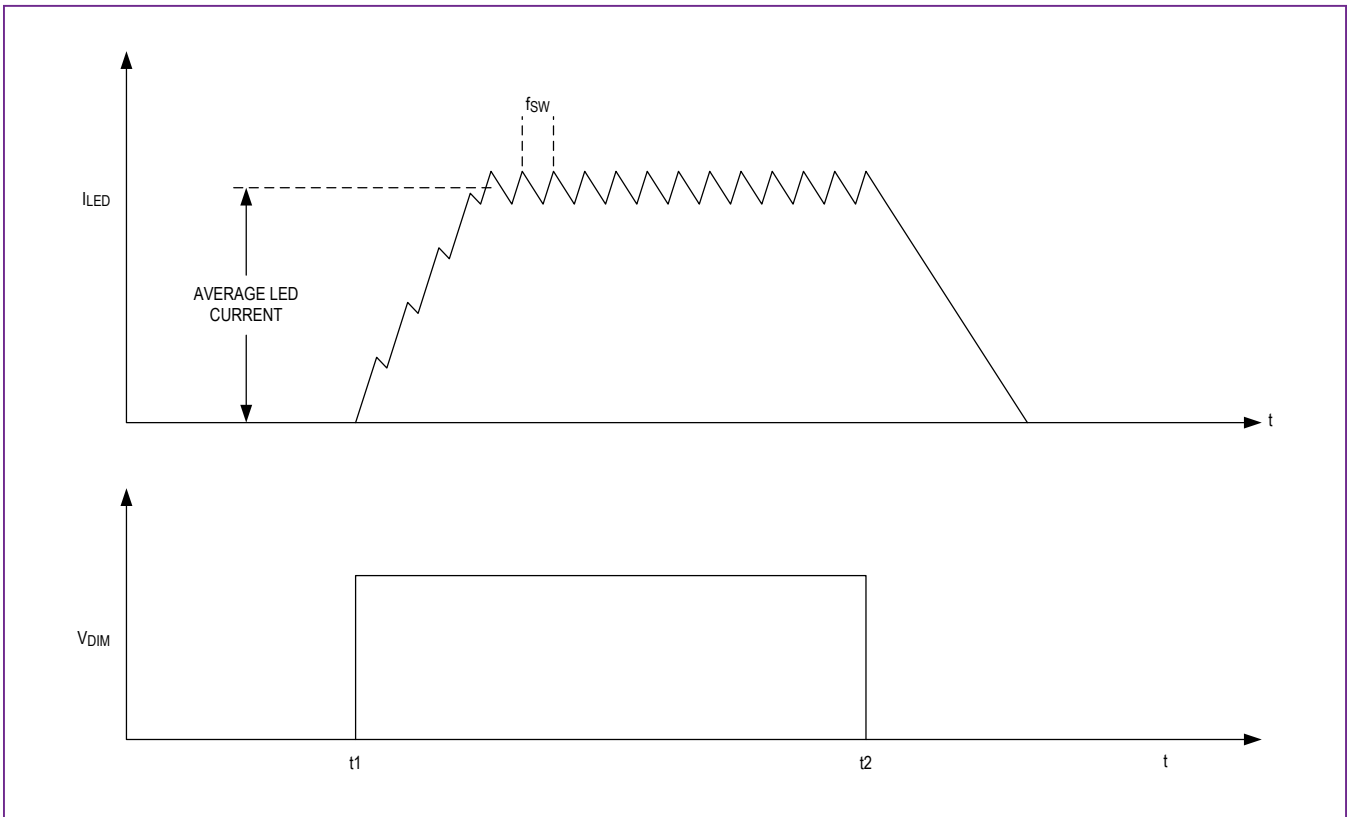

Figure 3. Operation During PWM Dimming When PWM Signal is Applied at PWM Pin
The DIM pin functions as the PWM dimming input of the LEDs. The DIM pin can be driven with a PWM signal that controls the dimming operation of the device. When the DIM signal is high, the switching of the synchronous MOSFETs in the buck LED driver is enabled, but when DIM goes low, both the high- and low-side MOSFETs are turned off. The LED current waveform is shown in Figure 3. The device goes into shutdown mode if the DIM input is below the ON threshold minus the hysteresis for 210ms. In shutdown mode, the input current is less than 5µA (typ).
- 1) Large switched currents flow in the IN and AGND/PGND pins and the input capacitor (C_{IN}) of Figure 3. The loop formed by the input capacitor should be as small as possible by placing this capacitor as close as possible to the IN and AGND/PGND pins. The input capacitor, device, output inductor, and output capacitor should be placed on the same side of the PCB, with the connections made on the same layer.